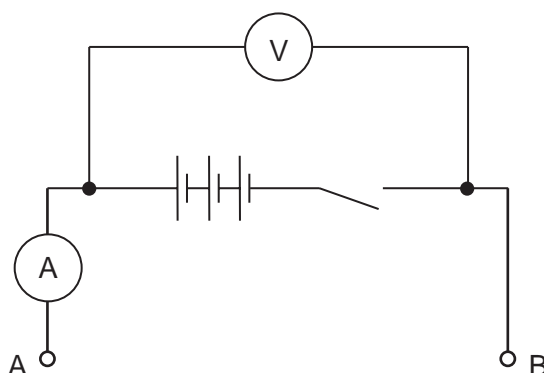

Fig. 4.1
- (iii) The Supervisor should set up the apparatus as shown in Fig. 4.1. The terminals A and B should be clearly labelled.
- (iv) At the changeover, the Supervisor should check that the circuit is set up as in Fig. 4.1 with nothing connected between points A and B and with the switch open.